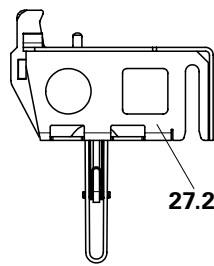

Fig. A10.07
1. Insert the Connector (27.1) with the groove bolt into the Main Beam SLT 225 (main bay) and tighten by hand. (Fig. A10.07)